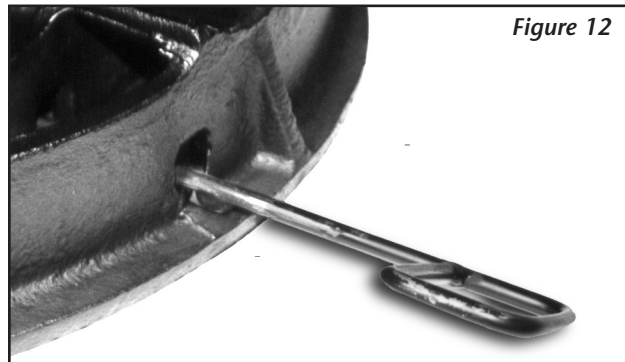
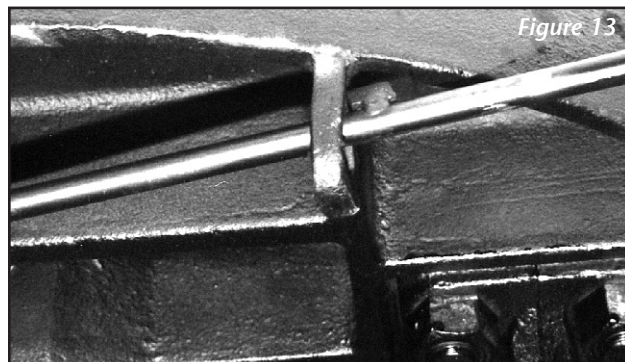

Figure 12
Figure 13
To uncouple the lock tester, pull the secondary lock release handle (9) out, raise it up and engage the handle lug with the top plate casting (Figure 12). Then, pull the release handle (16) out and raise it up and engage its handle lug with the top plate casting (Figure 13). This will retract the plunger (17) and hold it in so that the step in the plunger is not visible in the throat area. As the kingpin on the lock tester is pulled out (rearward), the swinging lock (6) will open. As the swinging lock opens, it will push the plunger back slightly, causing the release handle (16) to extend outward slightly. This action disengages the release handle from its notch in the casting, allowing the release handle to move to the locked position. As the swinging lock (6) opens past the plunger (17), the plunger will extend into the throat area and become visible again. The release handle (16) will move inward. As the swinging lock (6) opens fully, it will contact the retracted secondary lock (10), pushing the secondary lock release handle (9) slightly outward, causing its handle lug to disengage and allowing the handle to drop slightly.
- B. Pull the primary release handle (16) out, raise it up and engage the handle lug with the top plate casting (see Figure 13).
- C. Pull the primary release handle (16) out further and install a small piece of 1/4" stock (not supplied) between the handle lug and the casting.
- E. If the 1/4" stock does not drop out, go back to Step 6 and bend the release arm (15) slightly in the opposite direction.